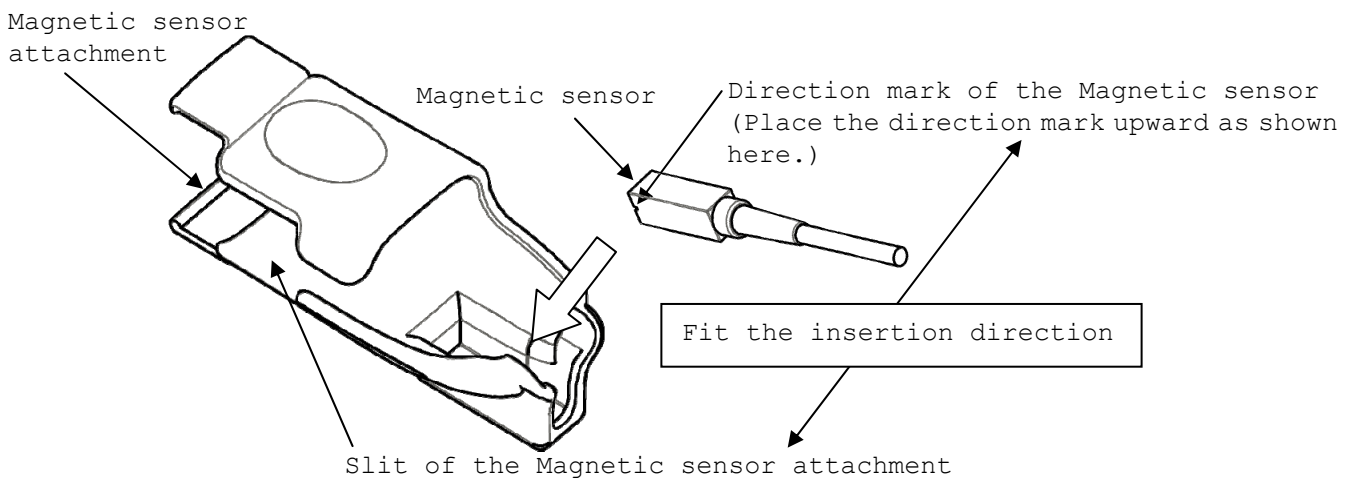

Fig.11 How to attach the Magnetic sensor
b) Insert the magnetic sensor into the Magnetic sensor attachment with correct direction as shown in Fig.11.